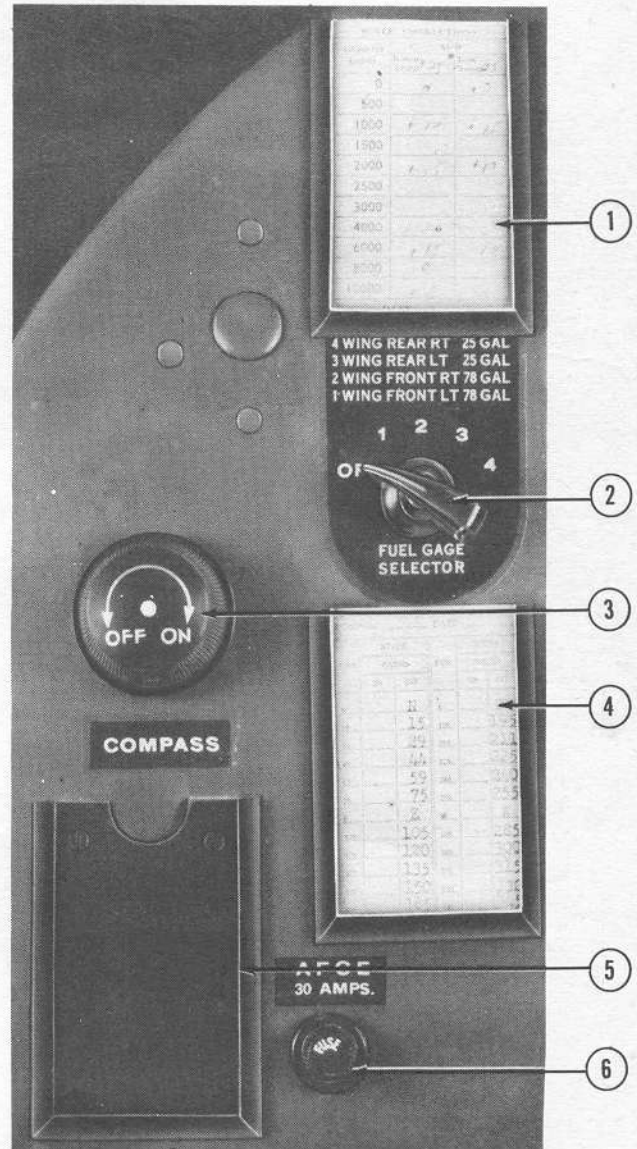
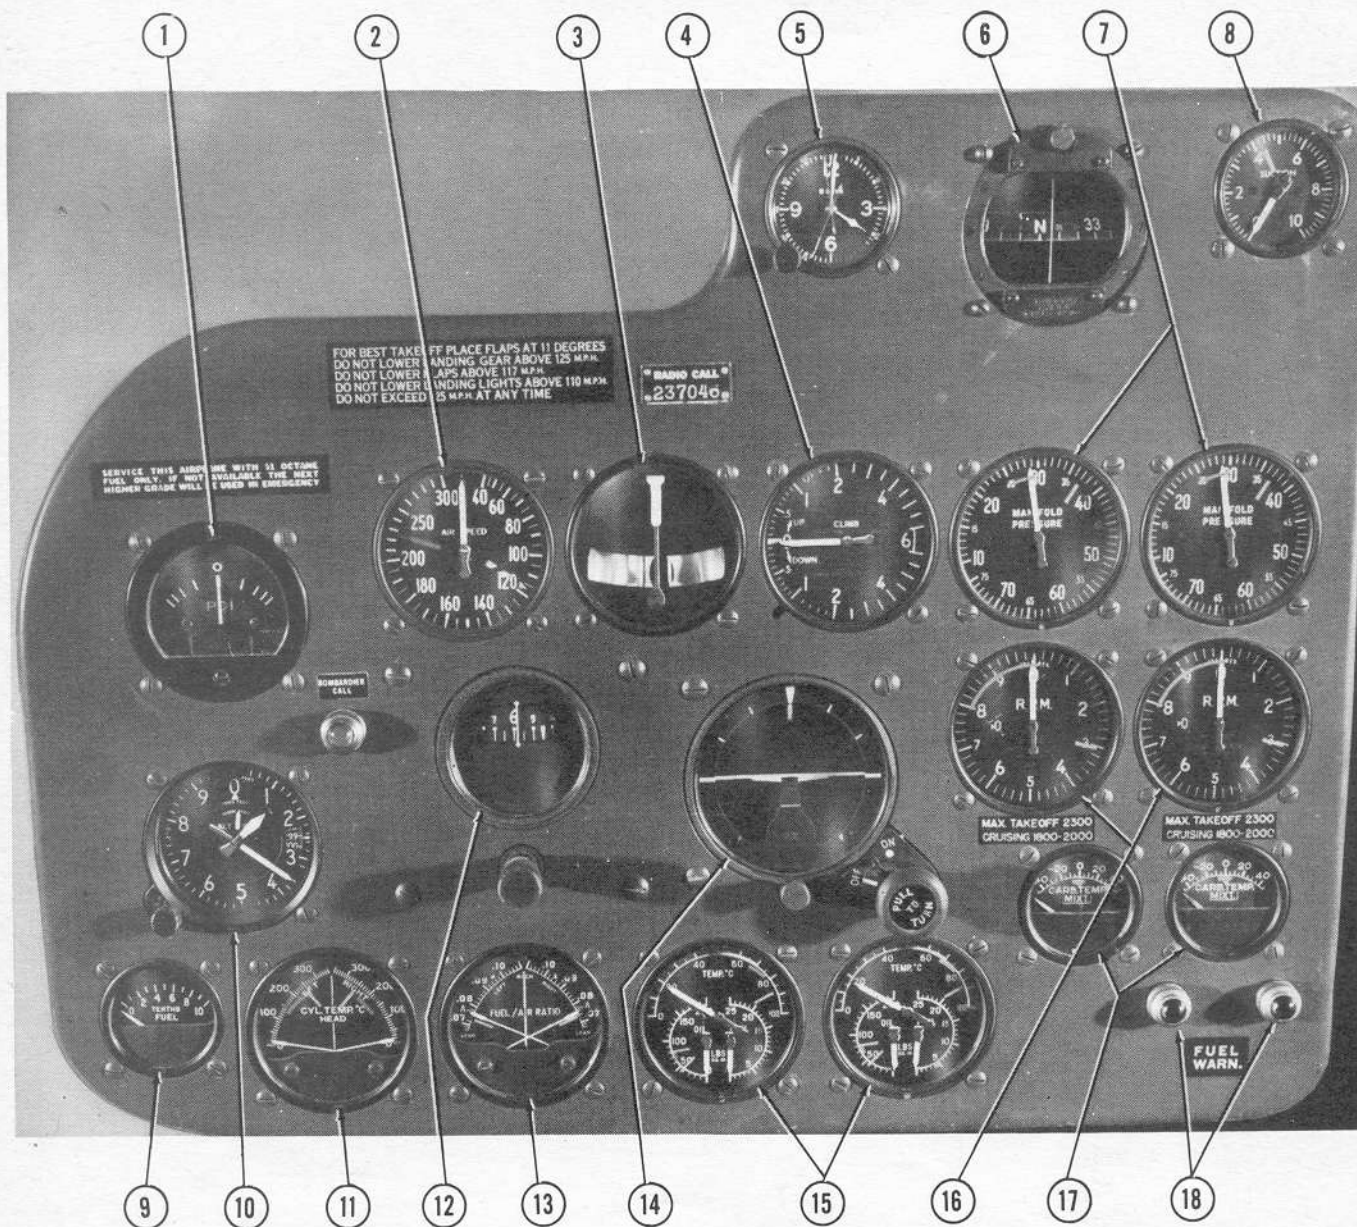

Figure 31—Pilot's Fixed Instrument Panel
Figure 36—Pilot's Instrument Panel
(6) **FUEL SELECTOR GAGE.**—The fuel selector gage (figure 31) is located to pilot's left on fixed instrument panel. By turning switch to desired tank, the amount of fuel in that tank can be read from fuel gage. (See figure 36.)
(8) **FUEL WARNING LIGHTS.**—Fuel warning lights (figure 36) are red and are located in lower right corner of floating instrument panel. If fuel pressure is too low for left engine, left light will light; if too low on right engine, right light will light.